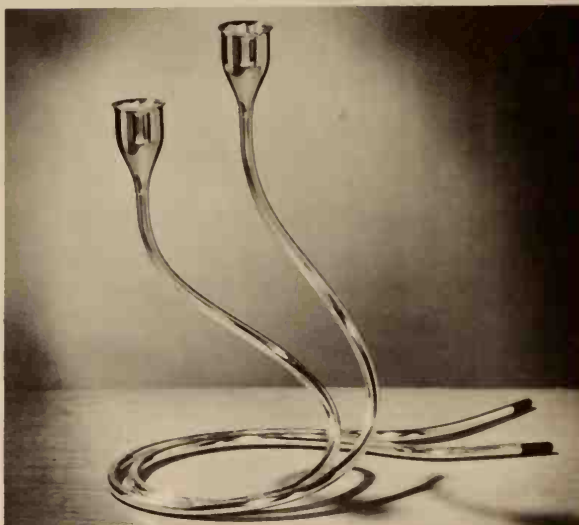

Fig. 2-7. In these candlesticks lines and curves are repeated to create rhythm.
8. Rhythm. Rhythm is achieved by repeating lines, curves, forms, colors, and the textures within the design. It gives an object a feeling of movement and a pleasing appearance, Fig. 2-7.